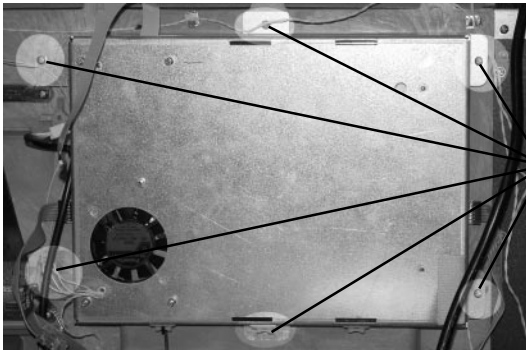

*Figure 3-19.
10. Remove the 6 phillips screws highlighted in Figure 3-19 from the control panel and then remove the display assembly, the display shield and the cable from the control panel.